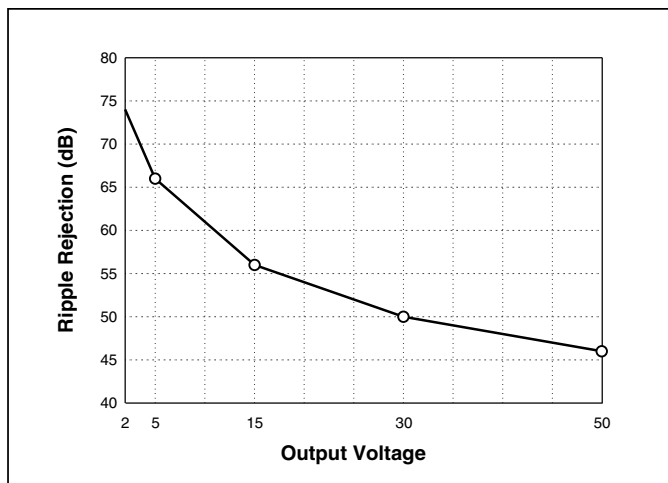

Figure 17 — Converter ripple rejection vs. output voltage (typical)
**Determining the Ripple on the Output of the DC-DC Converter.** *Figure 17* is used to determine the ripple rejection of the DC-DC converter and indicates a ripple rejection of approximately 60 dB for a 12 V output. Since the ripple on the bus voltage is 12 Vac and the ripple rejection of the converter is 60 dB, the output ripple of the converter due to ripple on its input (primarily 120 Hz) will be 12 m Vp-p.